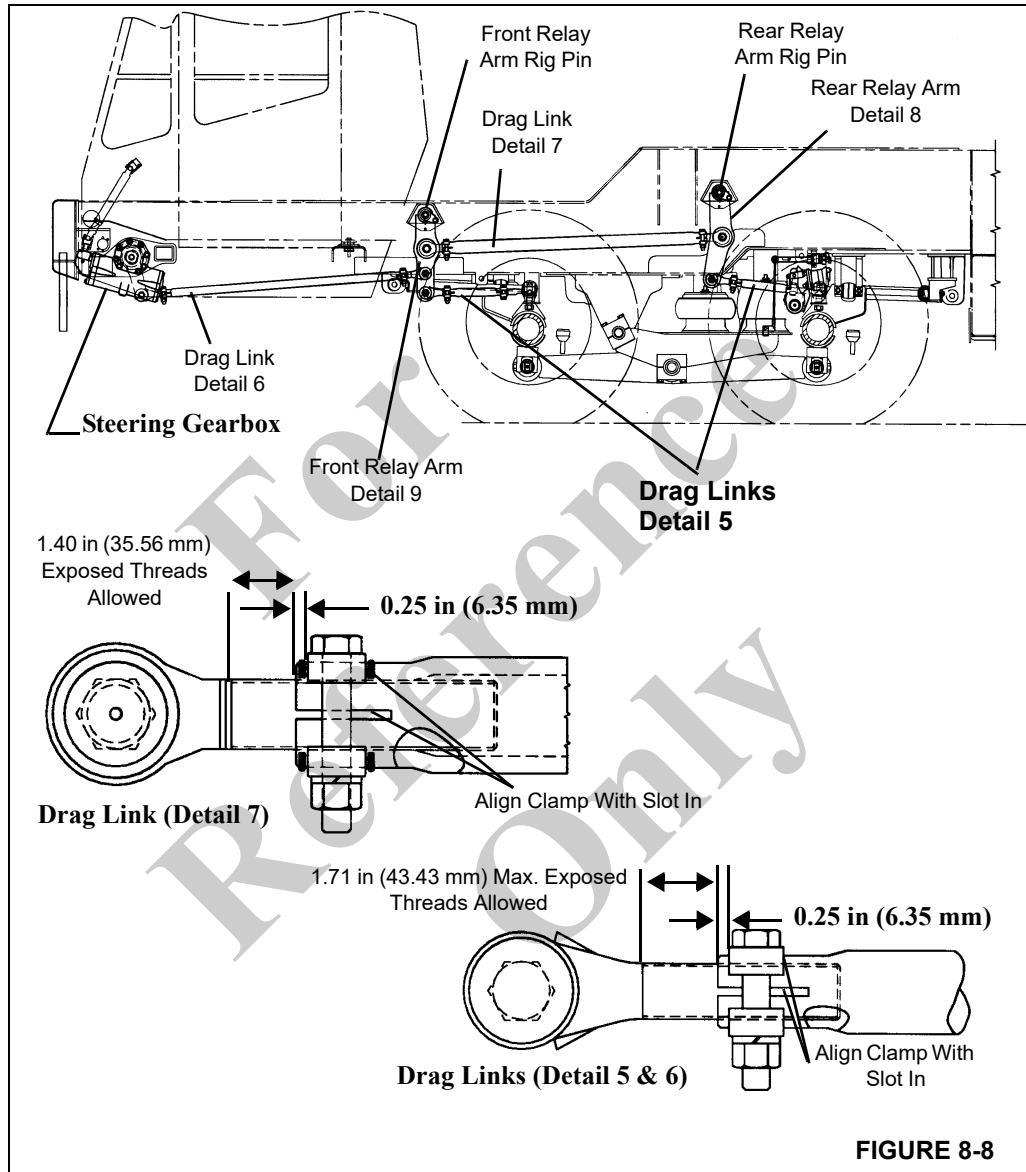

FIGURE 8-8
NOTE: All the following detail numbers are in reference to Drag Link Installation, Figure 8-8.
9. Referring to Figure 8-8, Drag Link Installation, adjust the drag links (Detail 5) as required so that the distance from the string line to the front of each wheel is the same as the distance from the string line to the rear of the same wheel within 1.5 mm (0.06 in). Check that the rod ends of the drag links are within limits specified in Figure 8-8.